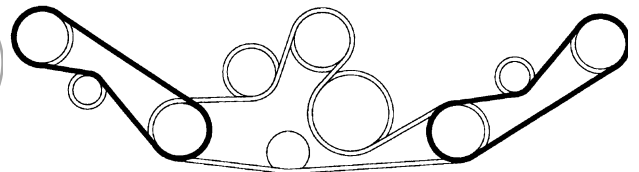

Figure 13
5. Route new belts around the spindle pulleys and through the idler pulley assemblies as shown in figure 13.